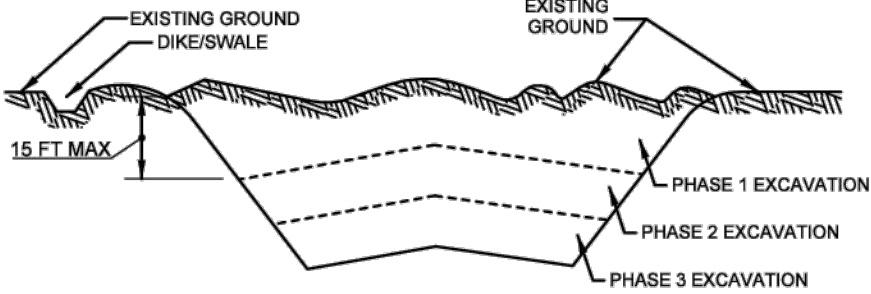

FIGURE B.1: INCREMENTAL STABILIZATION - CUT
- 2. CONSTRUCTION SEQUENCE EXAMPLE (REFER TO FIGURE B.1):